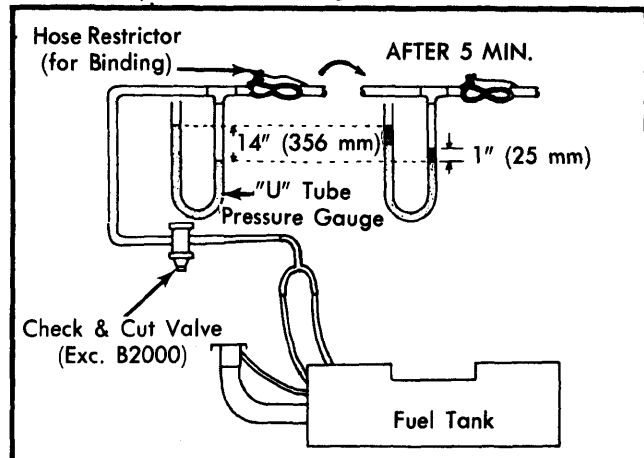

Fig. 2 Testing Evaporative Lines Using "U" Tube Pressure Gauge
1) Disconnect evaporative hose from canister. Connect detached hose to a "U" tube type pressure gauge filled with water. See Fig. 2.